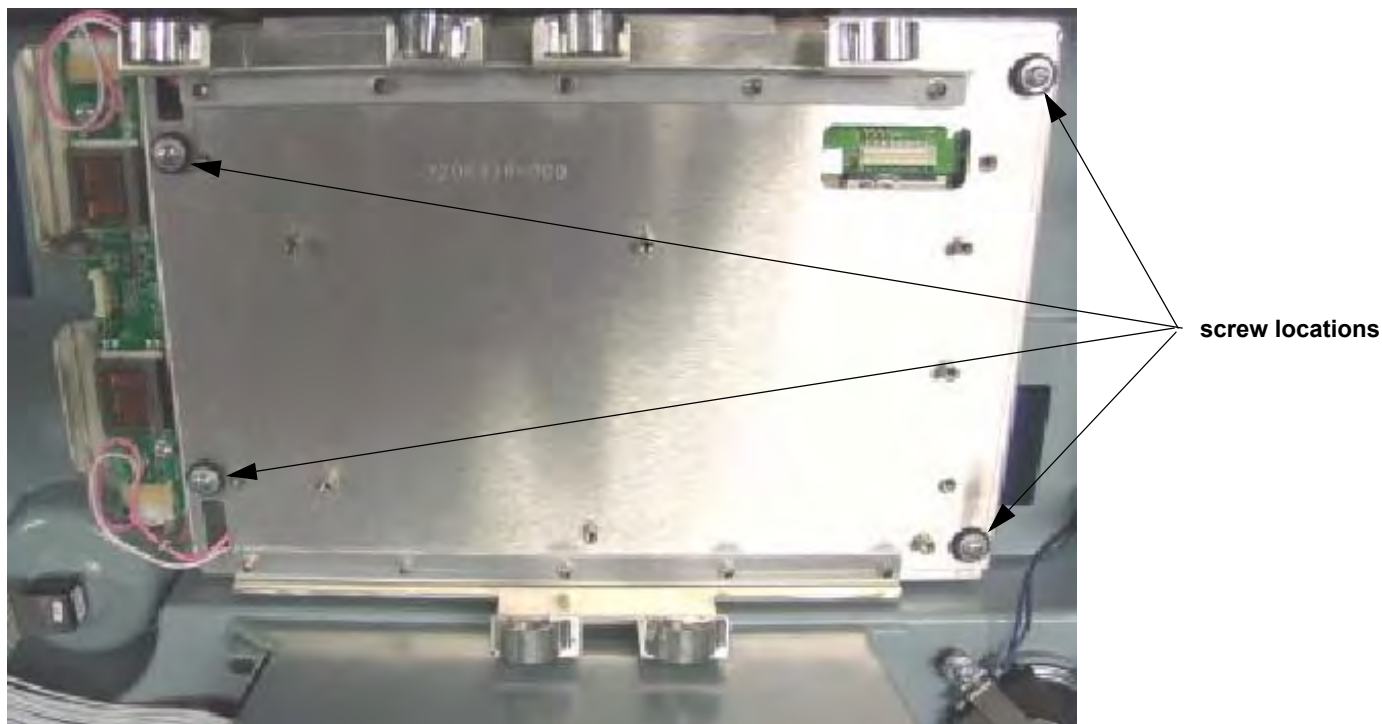

Figure 8.18—LCD display assembly screw locations
4. Remove the four LCD bracket mounting screws (202253-764) (see Figure 8.18 on p. 204). Discard the screws.